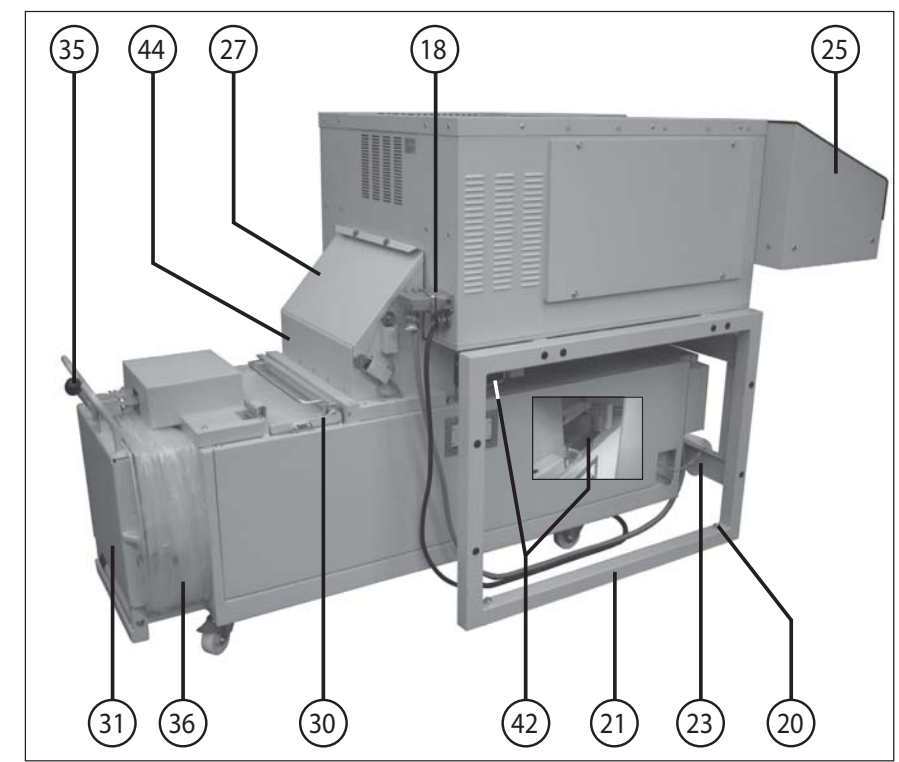

fig. 2
ASSEMBLY OF THE COMBINATION (fig. 2 and 3):
1. Push the baler under the shredder. Screw the shredder and the baler together with the aid of the two fixing brackets (42) provided with the shredder (fig. 2).
4. Insert and secure the connecting plug of the baler in the electrical outlet (18) at the housing rear panel (fig. 2).
- 18 = electrical outlet (fig. 2)
- 20 = leveling screw (fig. 2)
- 27 = cover flap (fig. 2 and 5)
- 30 = inlet flap (fig. 2)
- 31 = discharge flap (fig. 2)
- 35 = locking lever (fig. 2)
- 36 = sack frame (fig. 2 and 14)